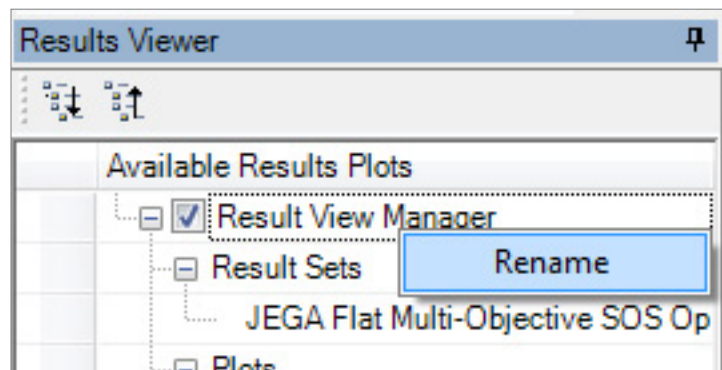

Figure 9. Renaming a result set before saving.
1. Right click on “Result View Manager” in the left navigation (Figure 9).